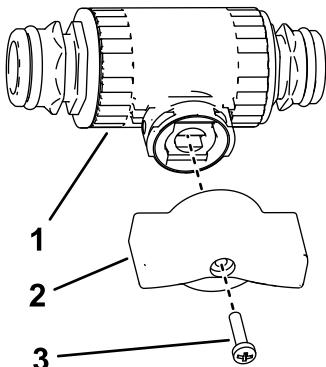

Figure 18
2. Assemble the red wing handle to the control valve as shown in Figure 18.